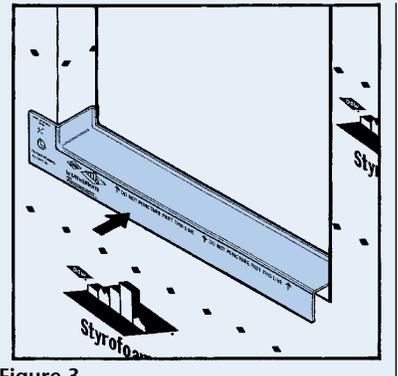

Figure 3
- a. Position one piece of WEATHERMATE™ Sill Pan along the base of window rough opening, lapping over weather-resistive barrier (Figure 3).